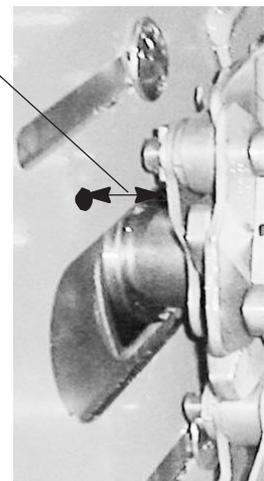

Figure 4. Headshaft Centering Measurement
a). Measure the distance between the headshaft sprocket face (or chain face) and the inside of the sidewall on both ends of the shaft to verify that the drag chain is centered in the discharge section (Figure 4). If not, proceed as follows:
- Measure the distance between the chain face (or sprocket face) and the inside of the sidewall (Figure 4). Be sure that the sprockets are centered (distance is equal for both sides).